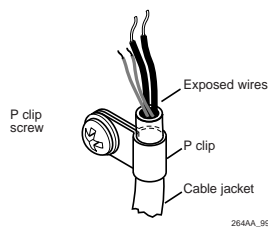

Figure 8. Detail of P clip
4. The P clip secures the cables in the RAU housing. Using a Phillips screwdriver, loosen the P clip (Figure 8). Push the cable through the bottom of the RAU and through the P clip so that the P clip encircles the cable jacket. Screw down the P clip loosely.